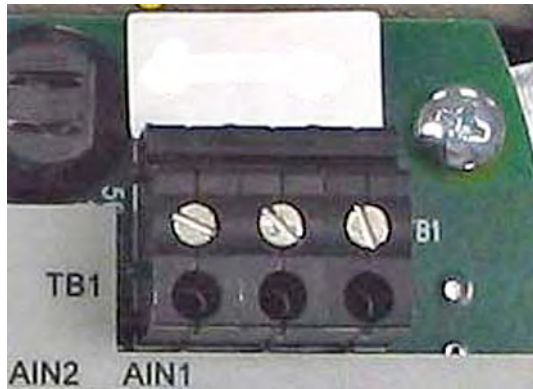
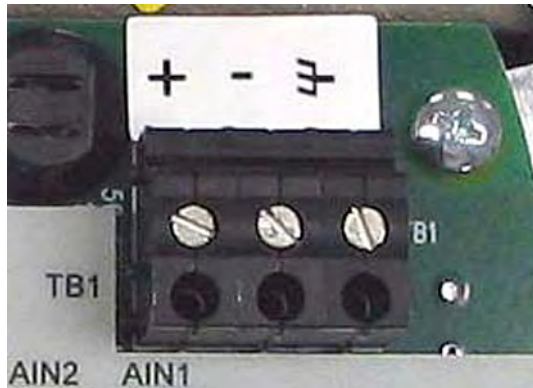

Figure 16: Wiring the AC line power
Figure 17: Wiring the DC line power
See *Figure 16* on page 11 or *Figure 17* on page 11 to locate terminal block TB1 and to connect the line power as follows:
2. Route the cable through one of three conduit inlet ports (see *Figure 15* above) and connect the line power leads to terminal block TB1, using the pin number assignments shown in *Figure 30* on page 17 and *Figure 16* on page 11 or *Figure 17* on page 11.
3. Run the power connections to the *power terminal block* shown in Figure 16 (AC power) or Figure 17 (DC power) above. The use of 12-18 AWG (3.3 - 0.82 mm²) wire is recommended for the power connections.
5. Route the cable through the chosen conduit hole and connect the line power leads to terminal block **TB1**, using the pin number assignments shown in *Figure 31 on page 18* and *Figure 16 on page 11* or *Figure 17 on page 11*.